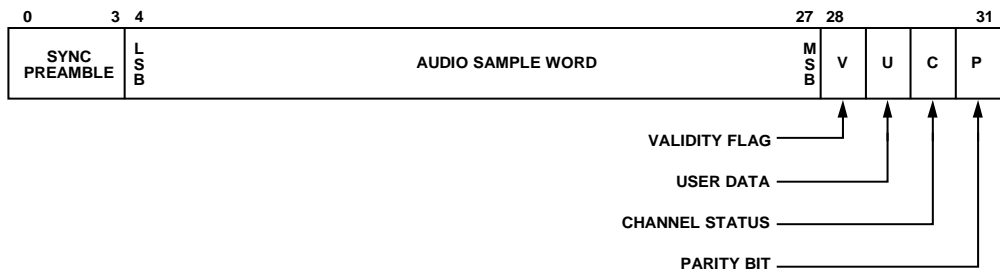

Figure 20. IEC 60958 Subframe Timing Diagram
- A stream conforming to the IEC60958 specification when the part receives audio sample packets with L-PCM encoded data (see Figure 20).
The ADV7613 can output HBR data as an SDPIF stream conforming to the IEC60958 specification (see Figure 20). One of the following configurations is required to output an SPDIF stream on the HBR output pins: